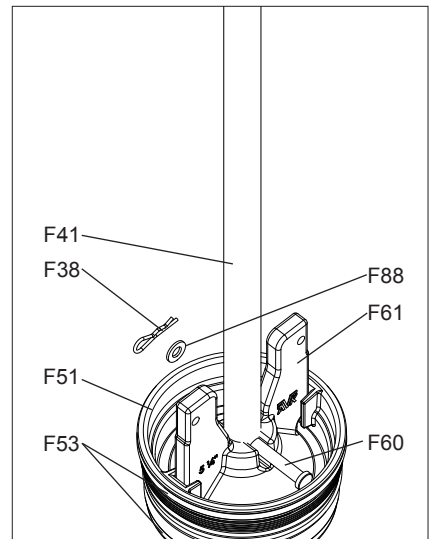

Fig. 7J
10. If any of the above parts are to be replaced, clamp the Lower Stem Rod (F41) in a standard pipe vise. (See Fig. 7J) Slide the Valve Seat Ring (F51) off the ears of the Main Valve. To disconnect the Main Valve from the Lower Stem Rod (F41) remove the Spring Pin (F38), and Main Valve Retaining Pin Washer (F88), from the Main Valve Retaining Pin (F60). Reverse the steps for reassembly. Lightly grease the Main Valve ears and Main Valve O-rings (F53), with a food grade grease that contains no acetate or silicone.